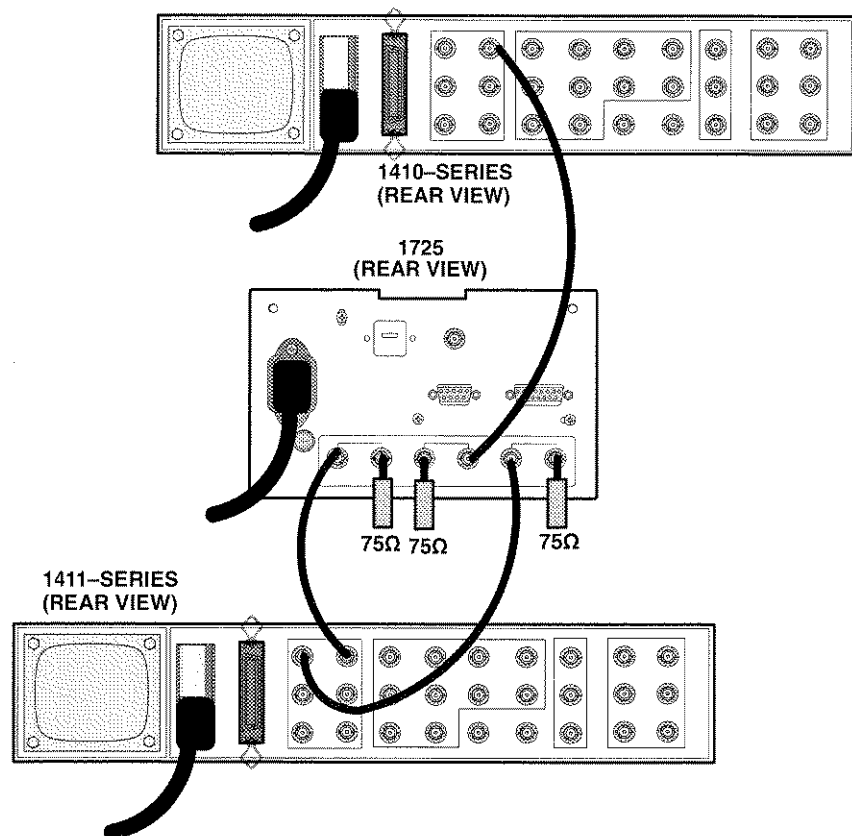

Figure 5-6: Equipment connections to check decoding accuracy
- b. Connect the PAL Color Bar signal to the CH-A INPUT and terminate the remaining side of the loop through connector with a 75Ω terminator. See Figure 5-6.
- c. Connect the NTSC color bar signal to the CH-B INPUT and terminate the remaining side of the loop through connector with a 75Ω terminator. See Figure 5-6.